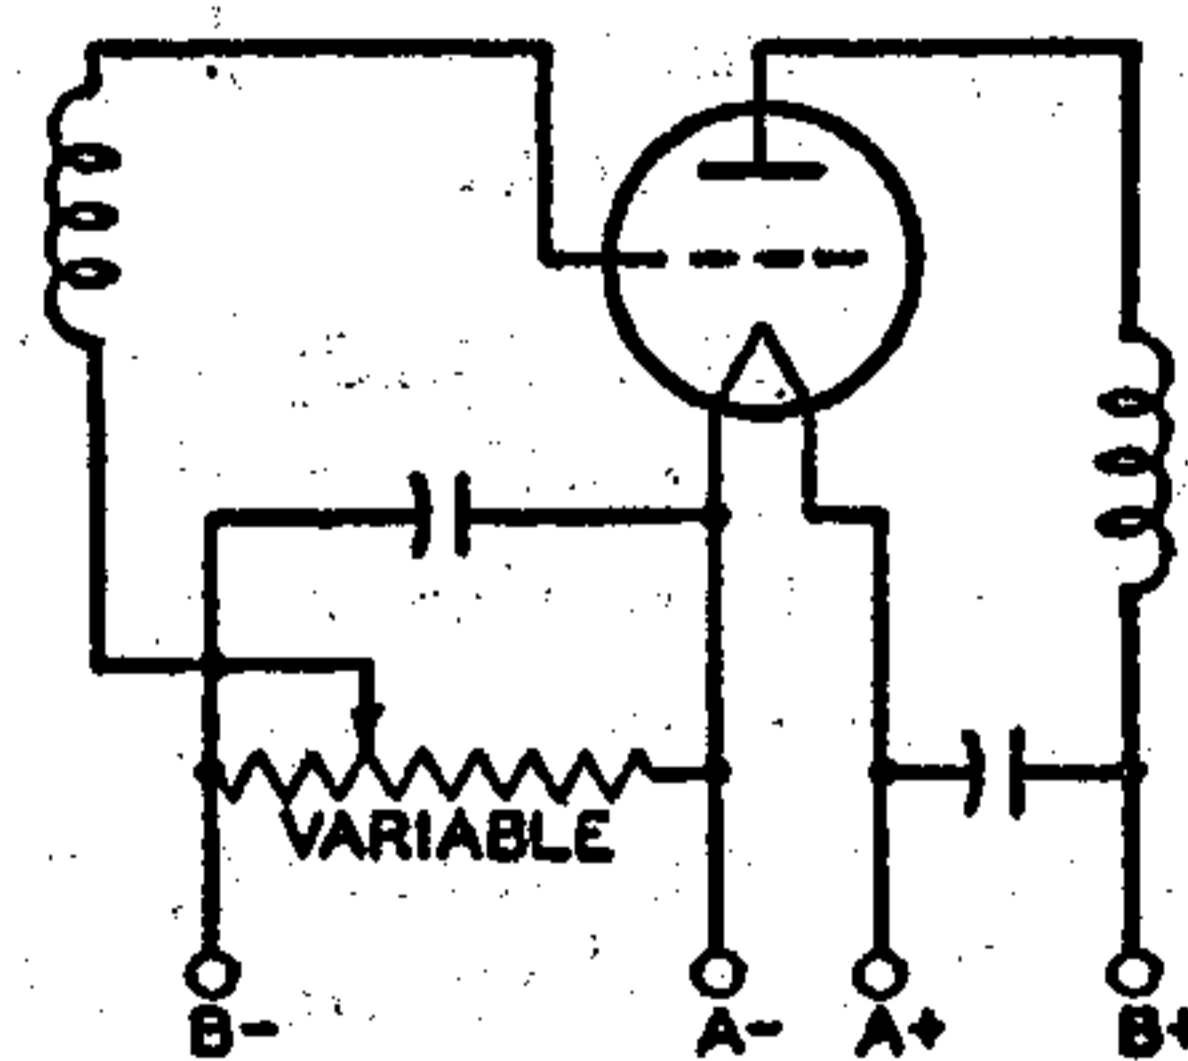
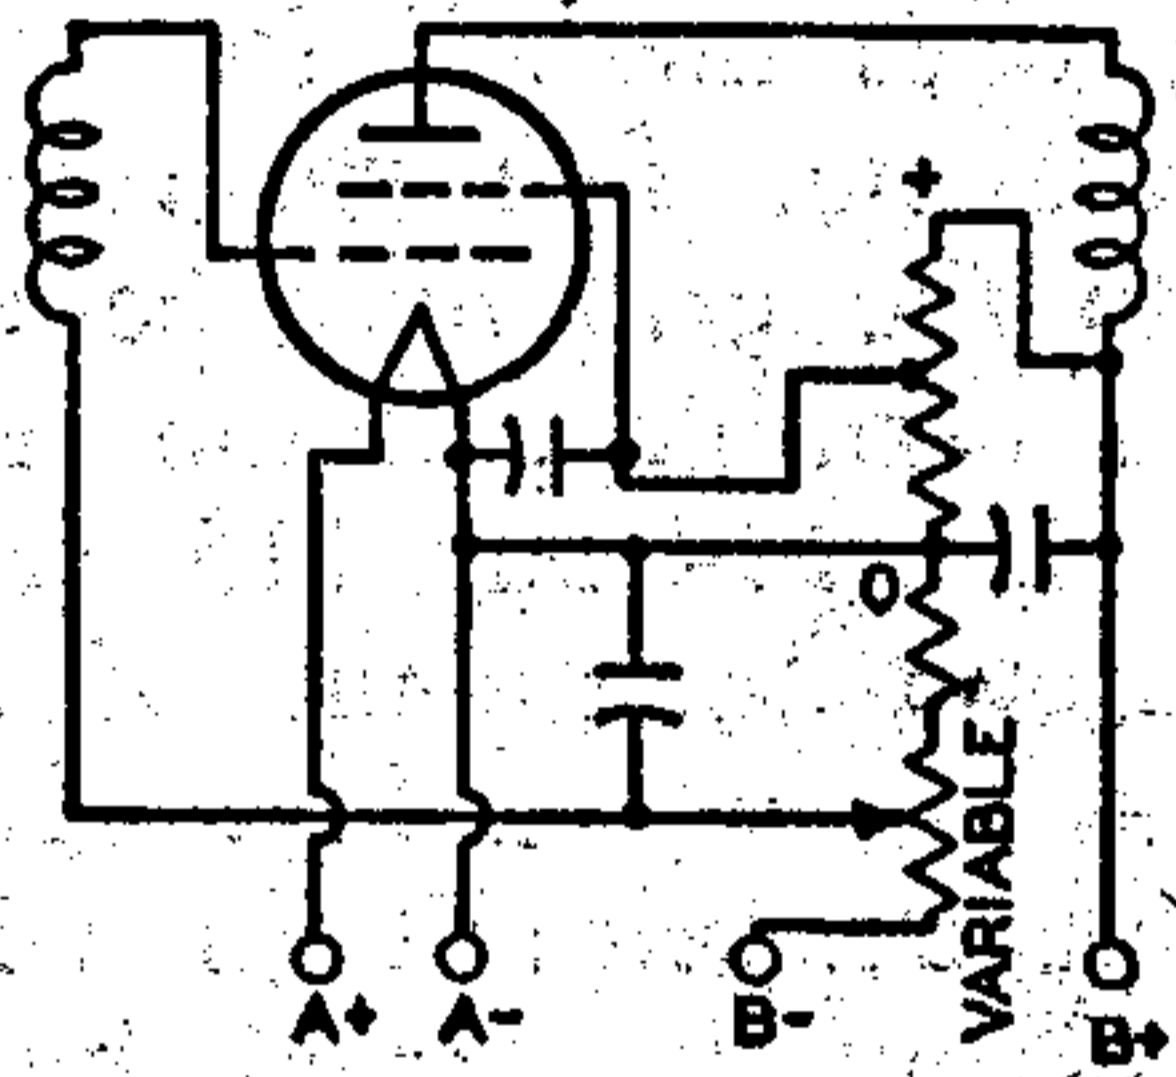

Fig. 114—Amplifier stage using a variable cathode-bias resistor for volume control.
Fig. 116—Amplifier stage using a bleeder circuit and potentiometer for volume control.
**Grid-bias variation** for the rf and af amplifier stages is a convenient and frequently used method for controlling receiver volume. The variable voltage supplied to the grid may be obtained: (1) from a variable cathode resistor as shown in Figs. 114 and 115; (2) from a bleeder circuit by means of a potentiometer as shown in Fig. 116; or (3) from a bleeder circuit in which the bleeder current is varied by a tube